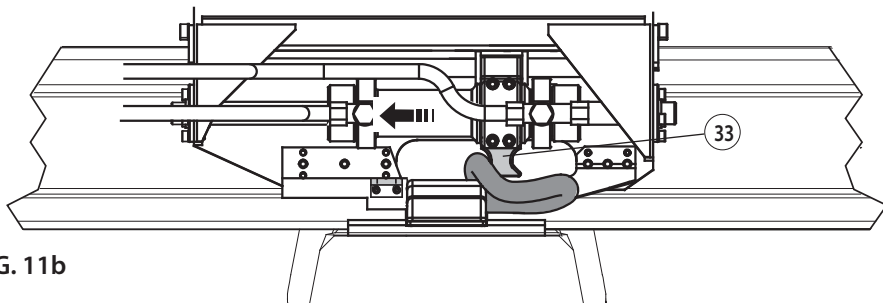

FIG. 11b
- Pull the control lever to the right in "INSERT" position to gradually move the teeth forwards with consequent insertion of both E clips (see Fig. 11b and 11c).